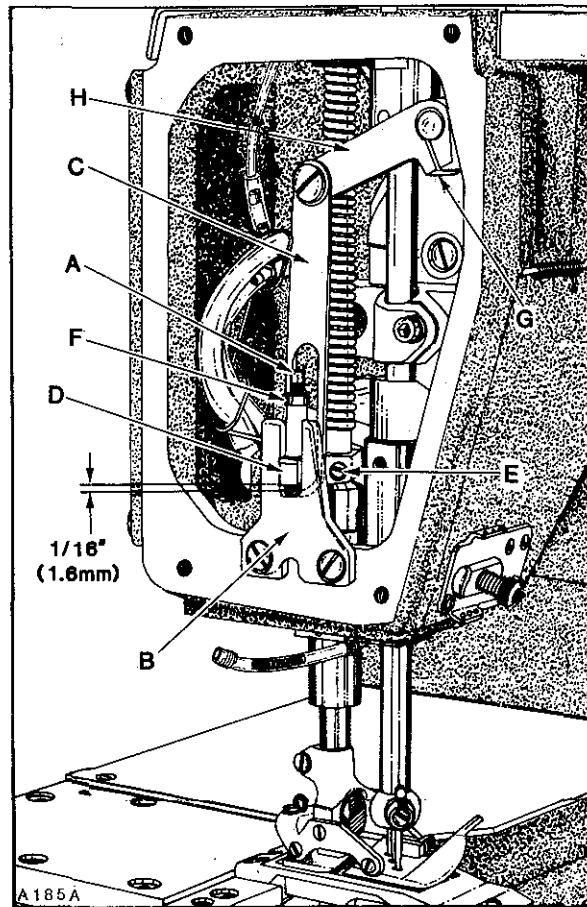

Fig.20
With needle bar at bottom of stroke and presser foot resting squarely on throat plate, there should be a minimum clearance of  $1/64$  inch (.4mm) between the bottom of screw (A, Fig. 20) and bottom of slot in presser bar guide plate (B). At this time, there should be at LEAST  $1/32$  inch (.8mm) clearance between bottom of presser bar guide and top of lower presser bar bushing. There should also be  $1/16$  inch (1.6mm) clearance between bottom of slot in lifter lever link (C) and bottom of presser bar guide (D) when foot lifter lever is released. If adjustment is required, proceed as follows: